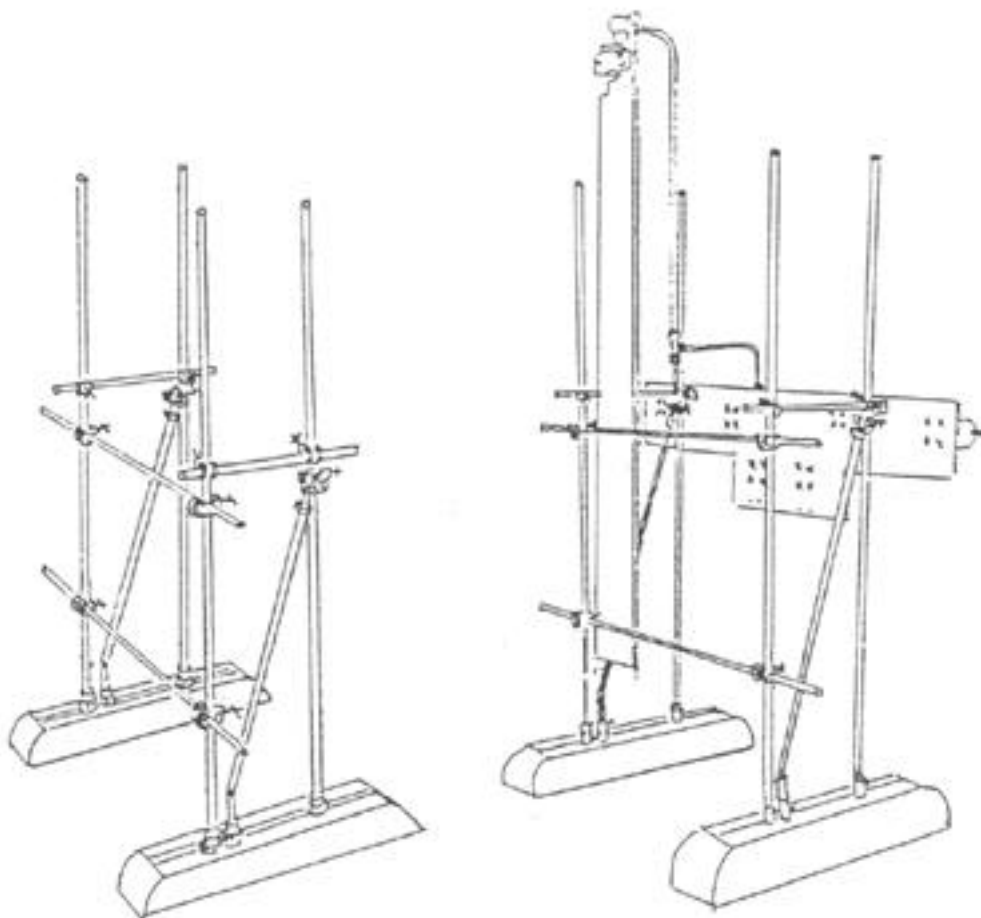

Figure 4 Supporting Stand for HF Reaction Apparatus (Not included)
The HF apparatus must be used in an Efficient fume hood. A supporting stand such as shown in Fig. 4 can be used. It is preferable to mount the apparatus solidly against the rear wall of the hood.
1. The Valve-Panel and the Manometer-Panel are fixed to the stand using Holders (603) as shown in Figs. 4 and 5.